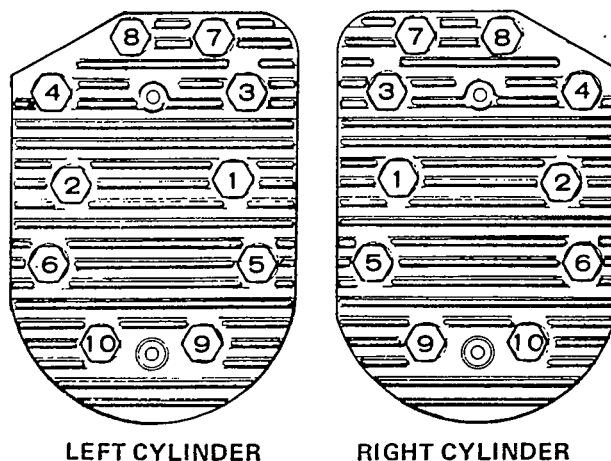

FIGURE 66. HEAD BOLT TIGHTENING SEQUENCE
6. Follow the head torque sequence shown in Figure 66.
After the head nuts have been tightened once, it will be necessary to tighten each head nut to the specified torque a second time. Follow the same sequence shown in Figure 66. Failure to re-torque could result in a blown head gasket.